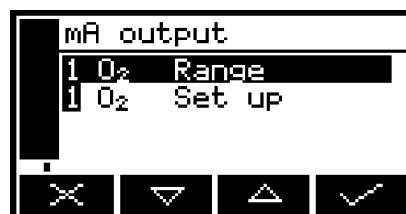

Figure 48 – The mA configuration screen (one measurement analyser)
4. Return to the mA configuration screen (Figure 48) and select 'Set up' option.